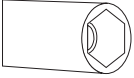

Figure 13
1. Please use driver with special head for removed and install nozzle as. (Figure 13)